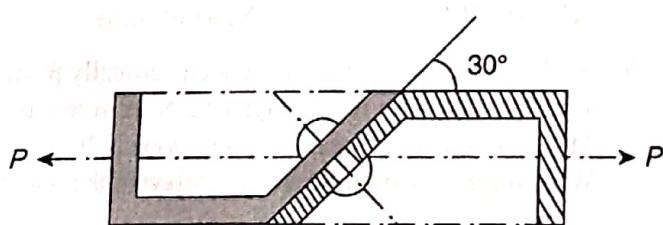

Figure 1.62
- Two parts of a certain machine component are joined by a rivet of a diameter of 25 mm. Determine the shear and normal stresses in the rivet if $P = 20 \text{ kN}$ and the angle of joint is 30° to the axis of the load, as shown in Fig. 1.62.